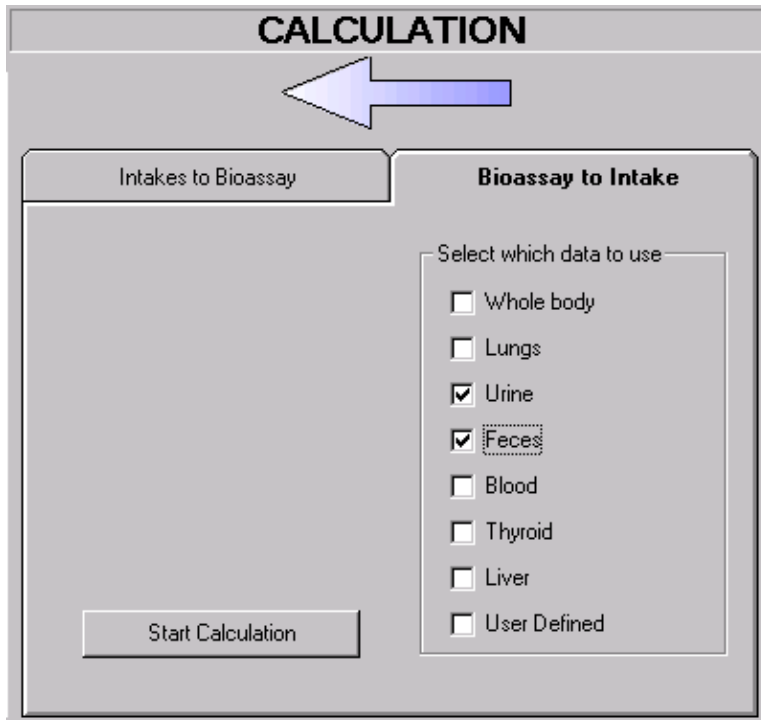

Figure 4.14. Bioassay calculation set as "Bioassay to Intake" and indicated by a blue arrow.
1. From **right** to **left** - Bioassay Quantity \(Measurements\) to estimated Intake\(s\) - as indicated by a **blue** arrow (Figure 4.14).